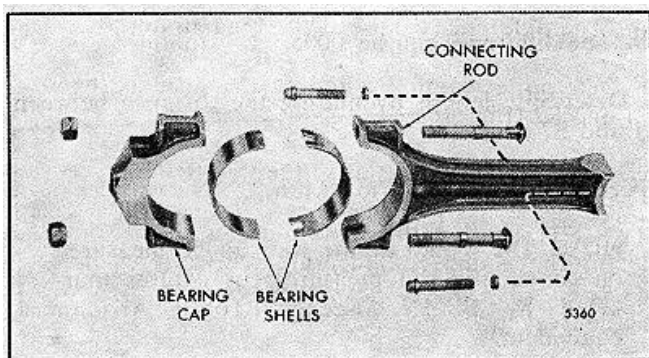

FIG. 14 - Connecting Rod Details Inspection
The connecting rod (Fig. 14) is forged to an "I" section with an open or saddle type contour at the upper end and a bearing cap at the lower end. The bearing cap and connecting rod are forged in one piece and bored prior to separation.
1. Check for cracks (Fig. 14) by the magnetic particle method outlined in Section 1.3 under Crankshaft Inspection.
3. Determine taper as follows (Fig. 14):